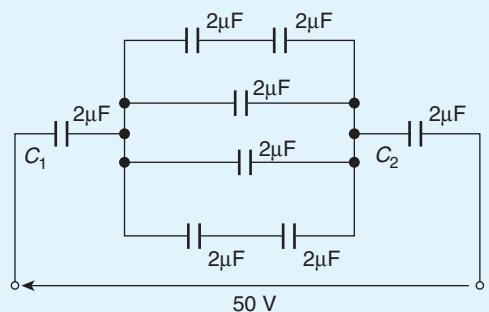

Figure 6.13
12. For the circuit shown in Fig. 6.13, determine (a) the total circuit capacitance, (b) the total energy in the circuit, and (c) the charges in the capacitors shown as  $C_1$  and  $C_2$